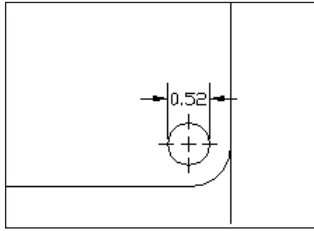
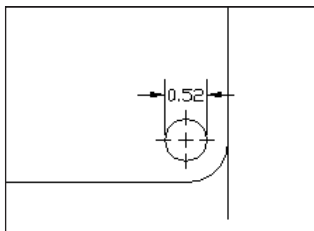

Figure 15-14: A narrow dimension using the Either the text or the arrows, whichever fits best option.
Figure 15-15: A narrow dimension using the Arrows option
- ♦ **Either the text or the arrows, whichever fits best:** Puts whatever fits inside the extension lines. The arrowheads might fit inside and the text not, or the other way around. Or if there is not enough room for either, they both go outside the extension lines. Figure 15-14 shows a dimension using this option.
- ♦ **Arrows:** If there is not enough room for both the text and the arrows between the extension lines, the arrows go outside and the text goes between them. Figure 15-15 shows a dimension using this option. The results of this option happen to look the same as Figure 15-14, but a different setting produced them.